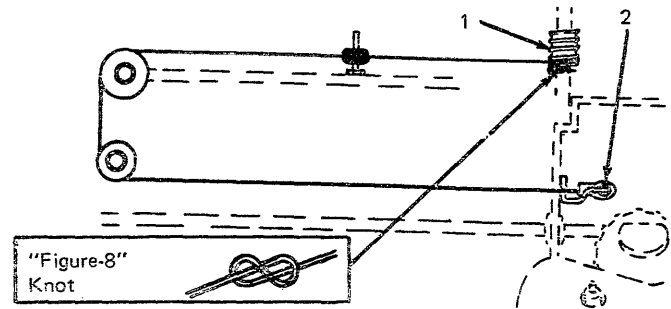
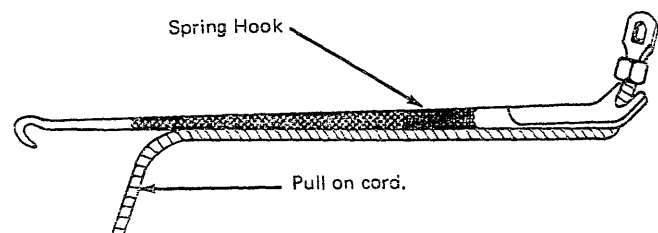

Figure 4-8. Carrier-Return-Cord Replacement
Figure 4-10. Attaching The Carrier-Return Cord
3. With the carrier to the extreme right, feed the carrier-return cord around the pulleys and connect it to the cord drum (No. 1, Figure 4-8).
4. Connect the carrier-return cord (No. 2, Figure 4-8) to the carrier, using the pusher end of a spring hook. Set the eyelet on the pusher fork with the cord in the fork, pulled taut along the spring-hook handle (Figure 4-10).